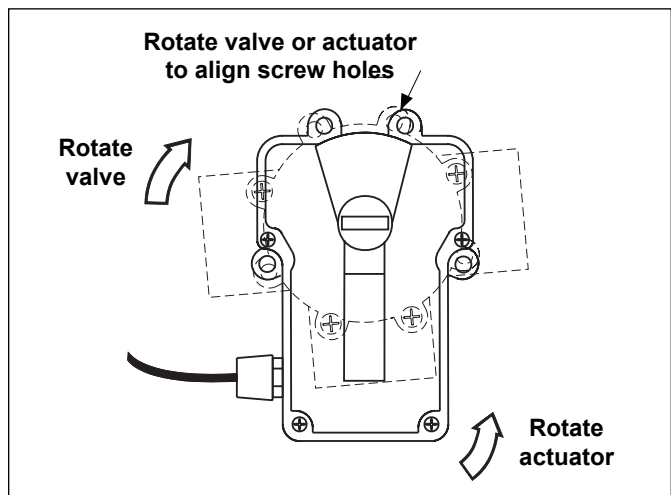

Figure 6. Actuator Mounting
5. Rotate the actuator while keeping the two shafts engaged until the screw holes on the actuator legs align with the empty screw holes (from step 2) in the valve (see Figure 6).
6. Use the four (4) 2" Phillips head screws (included with the JVA) to secure the JVA to the valve.